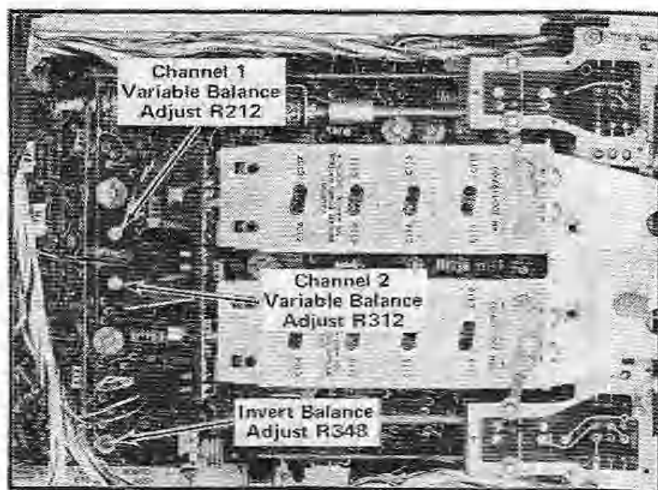

Fig. 5-7. Location of Channel 1 and 2 balance adjustments.
- g. ADJUST—Variable Balance adjust R212 (see Fig. 5-7) for minimum trace shift when rotating the CH 1 Variable VOLTS/DIV control.
- h. ADJUST—Variable Balance adjust R312 (see Fig. 5-7) for minimum trace shift when rotating the CH 2 Variable VOLTS/DIV control.
- m. ADJUST—Invert Balance adjustment R348 (see Fig. 5-7) for minimum trace shift when inverting the Channel 2 display.